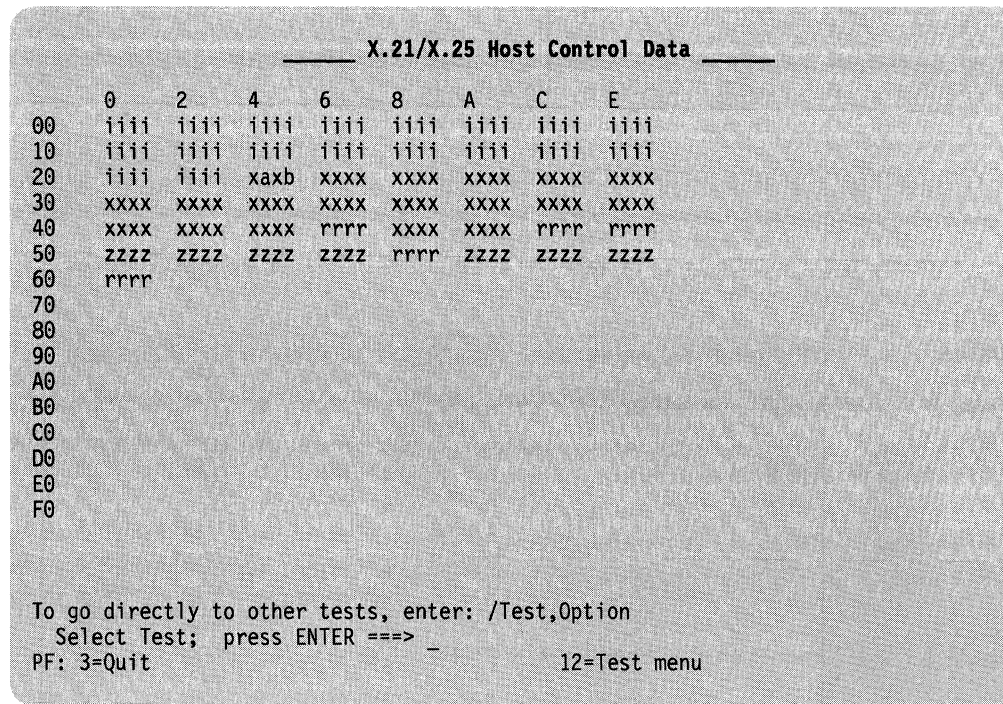

Figure 3-23. Example of an X.25 Host Control Data Panel
**Test 6, Option 3 (X.25):** The panel shown in Figure 3-23 shows the information for X.25.